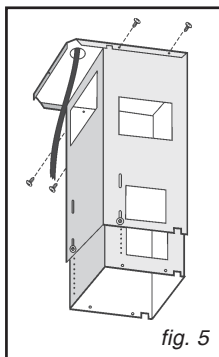
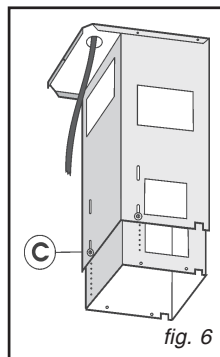
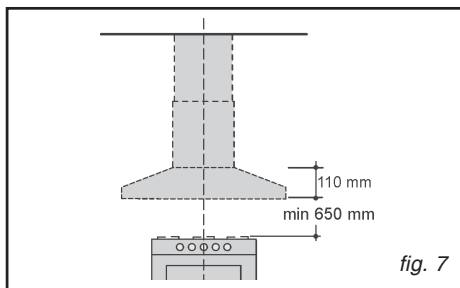

fig. 5
fig. 6
fig. 7
- Secure the telescopic structure to the bracket using 4 screws (provided), passing the air exhaust pipe inside the telescopic structure and running the power cable through the hole in the bracket (Fig. 5). Adjust the height of the telescopic structure using the 4 retaining
screws C (Fig. 6) bearing in mind that the height of the hood is 110 mm and that the distance of the hood from the hob must be at least 650 mm (Fig. 7).
- Secure the telescopic structure to the bracket using 4 screws (provided), running the power cable through the hole in the bracket (Fig.5). Adjust the height of the telescopic structure using the 4 retaining screws C (Fig. 6) bearing in mind that the height of the hood is 110 mm and that the distance of the hood from the hob must be at least 650 mm (Fig.7).